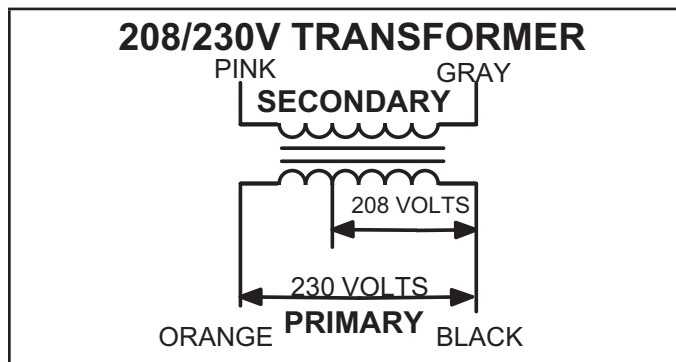

FIGURE 4
All use a single line voltage to 24VAC transformer mounted on the hinged control panel. Transformer supplies power to control circuits in the unit. The transformer is rated at 70VA and is protected by a 3.5 amp circuit (CB8). The 208/230 voltage transformers use two primary voltage taps as shown in FIGURE 4, while the 460 (G) voltage transformer use a single primary voltage tap. T43 is used for units with hot gas reheat for additional 24VAC.